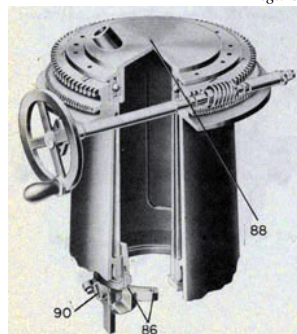

Figure 125-Removal of Inner Bearing.
86. Reach into the stand and remove six flat screws holding the inner bearing plate of the training circle and stop bracket assembly. See figure 125.
88. Liftup and remove the inner bearing. Examine this assembly for rust or corrosion. See figure 125.
90. Inspect training stop assembly, examine the rubber bumpers and spring. If damaged or worn, replace. See figure 125.